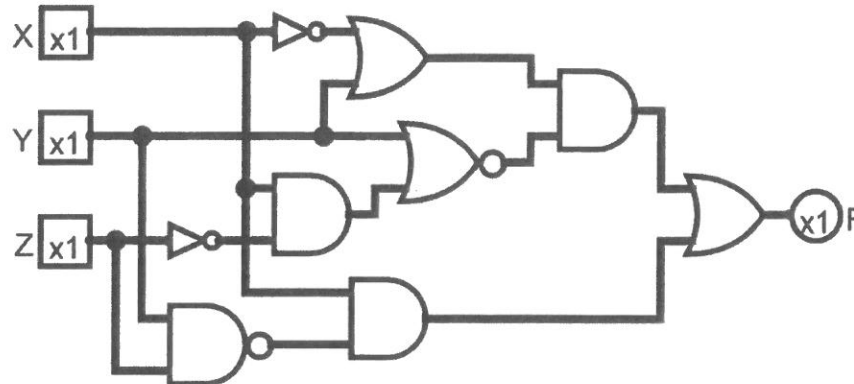

Figure 3(b)
- (b) Express Figure 3(b) to the simplest form using minimum gate count regardless of the types. Note that a NOT gate is also counted as one gate. Show working clearly.